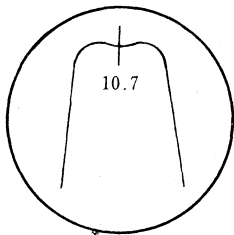

Figure 9
(1) RF Amplifier
(2) First IF Amplifier
- b) Set the frequency of the sweep generator to 10.7 MHz and apply its output. Adjust T_{101} until the scope pattern illustrated in Fig. 9 is available.